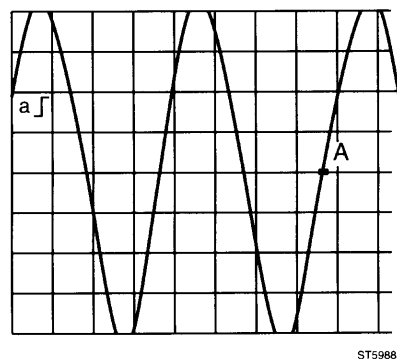

Figure 4.9 Trigger level indication on screen
- E Press the TRIGGER key. Use the select/adjust keys to verify that the trigger level range is more than 8 divisions (4 divisions up and 4 divisions down). The selected trigger level is shown on the display (reversed indication "◊ LEVEL"). Also the trigger level indication, marked with an A , will shift, while shifting the trigger level. See figure 4.9.